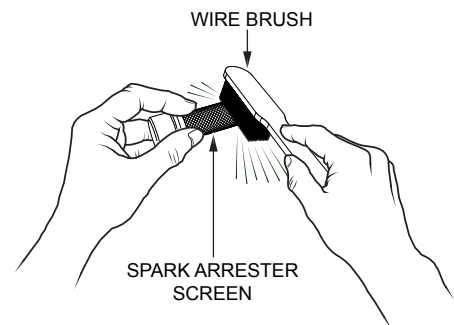

Figure 42. Cleaning The Spark Arrester
3. Carefully remove carbon deposits from the spark arrester screen (Figure 42) with a wire brush.